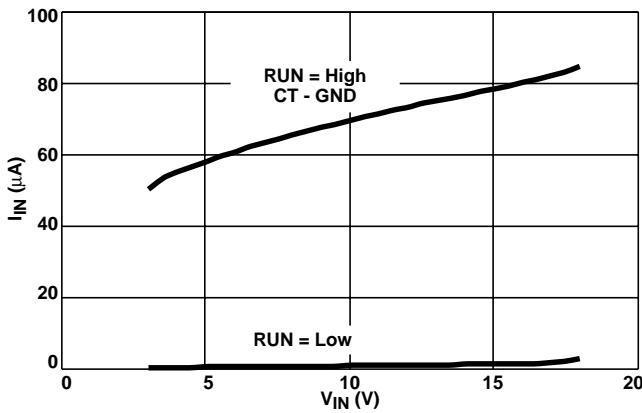

FIGURE 12. BIAS POWER CHARACTERISTICS
The converter efficiency and power dissipation at light load is mainly a function of the bias supplied to the HIP5020. Figure 12 shows the input current as a function of the input voltage for the two states of the RUN signal.  $I_{IN}$  is summation of both the current into the VIN and VINP pins. The curve for  $I_{IN}$  with the RUN signal High does not include the gate drive power.
- 2) Add the product of the voltage and current from the RUN = High curve in Figure 12.
- 4) Add the product of the voltage and current from the RUN = Low curve in Figure 12.